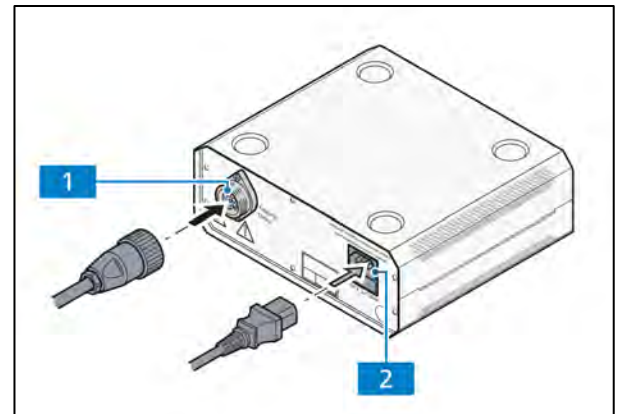

Fig. 3-34 Power supply unit for HBO 100
- Connect the HBO 100 lamp cable to the power supply unit (Fig. 3-34/1). Secure with retaining ring.
- First, plug the cord into the outlet (Fig. 3-34/2) of the power supply unit, then insert the power plug into the electrical outlet.